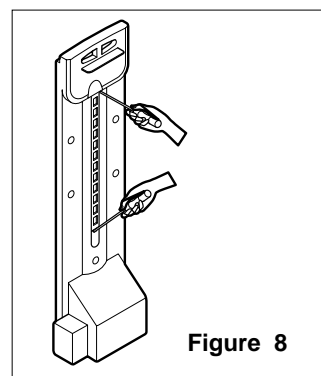

Figure 8
1. Remove an upper and lower Cap by using a flat screwdriver, and loosen 3 screws. (Figure 8)